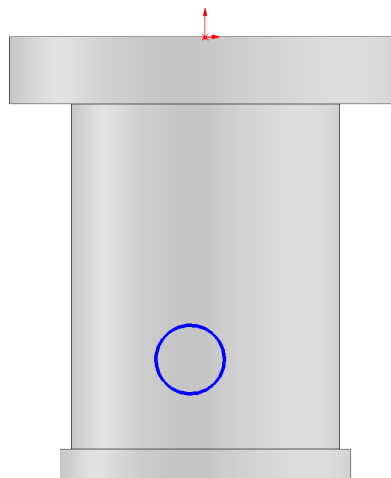

Fig. 12
Step 4. Sketch circle below **Origin** , **Fig. 12**.